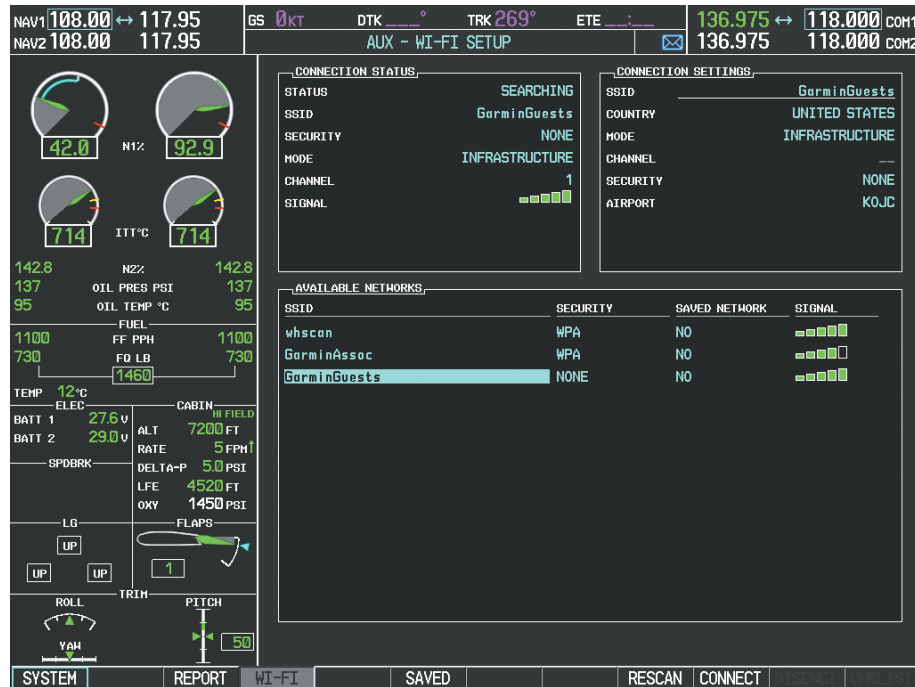

Figure 8-108 Desired Network Selected
- 4) Turn either **FMS** Knob to select the desired network. See Figure 8-108.